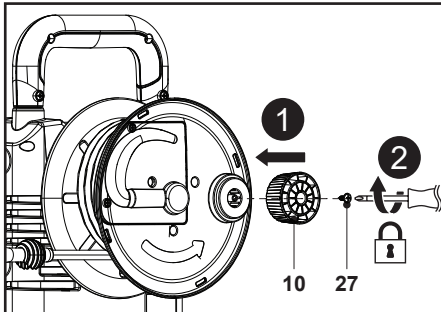

Fig. 3
1. Align the mounting hole on the hose reel knob (10) with its rest on the machine, then use a suitable cross-head screwdriver (not supplied) to secure the connection with the screw (ST4.8 x 16) (27) (Fig. 3, steps 1, 2).